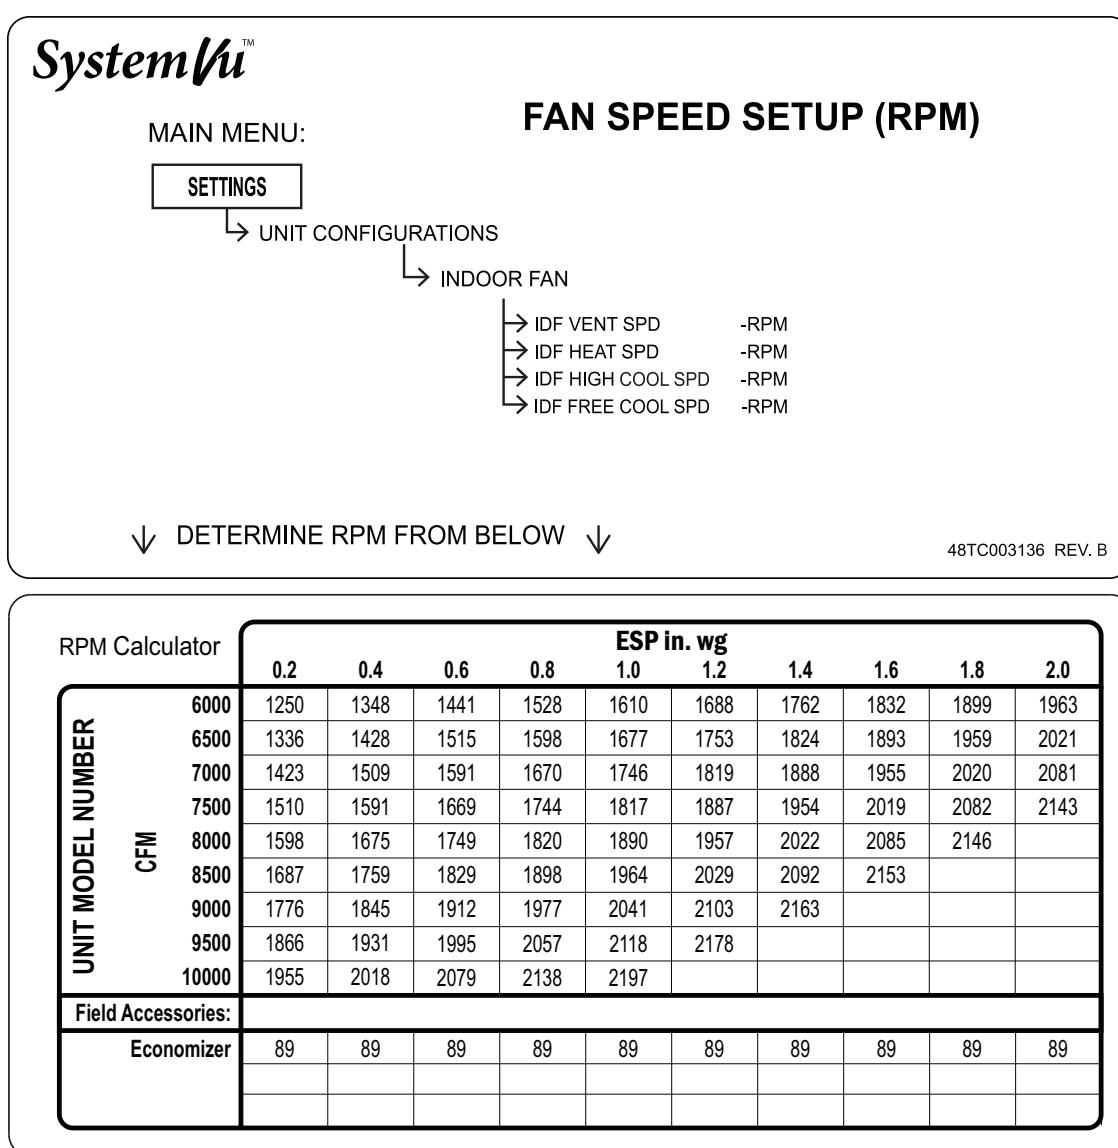

Fig. 10 — Example of Fan Speed Set Up Labels for SystemVu™ Controls
2. Using the chart on the Fan Speed Set Up labels (see Fig. 10), calculate the rpm from the cfm and ESP for the base unit.
9. Refer to the job specifications to set the following, determining the values per the rpm Calculator label (see Fig. 10). Use the UP and DOWN arrow keys and the BACK key to set the values. Press ENTER after setting each value to continue to the next selection.